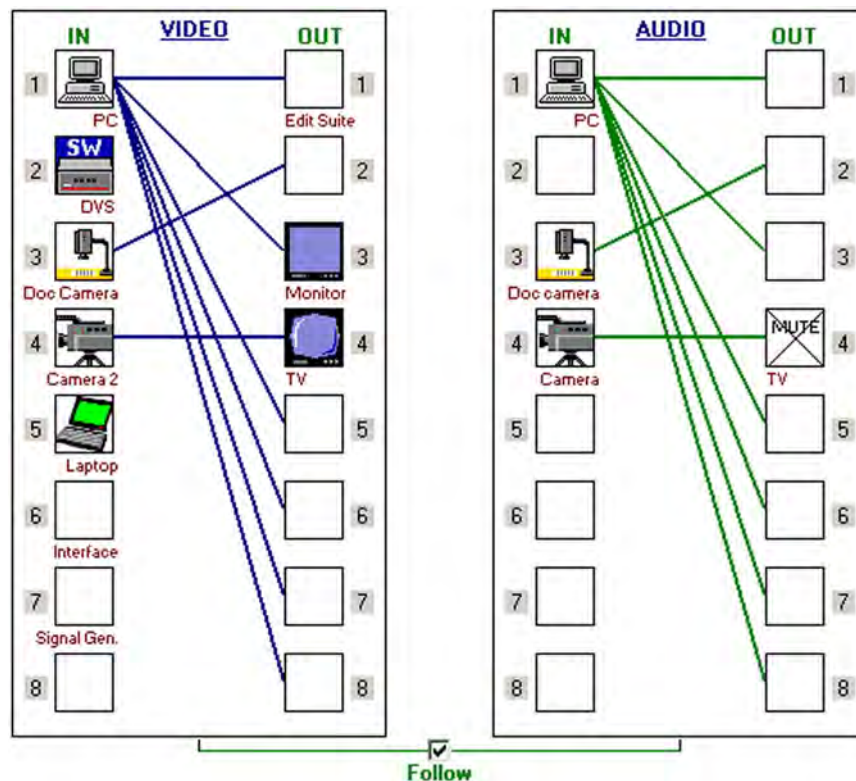

Figure 95. Ties Shown as Lines
- **Icons in I/O boxes** — Displays icons that you place in the I/O boxes in the matrix window (see figure 95 on the previous page).